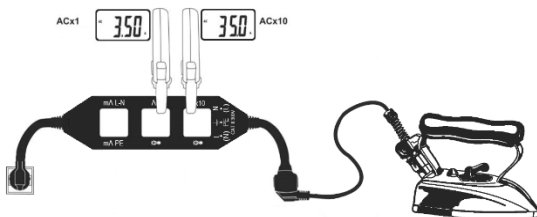

Fig. 2
4. Read off the line current values at ring Ax1 or divide the ring Ax10 reading by 10 (see Fig. 2).